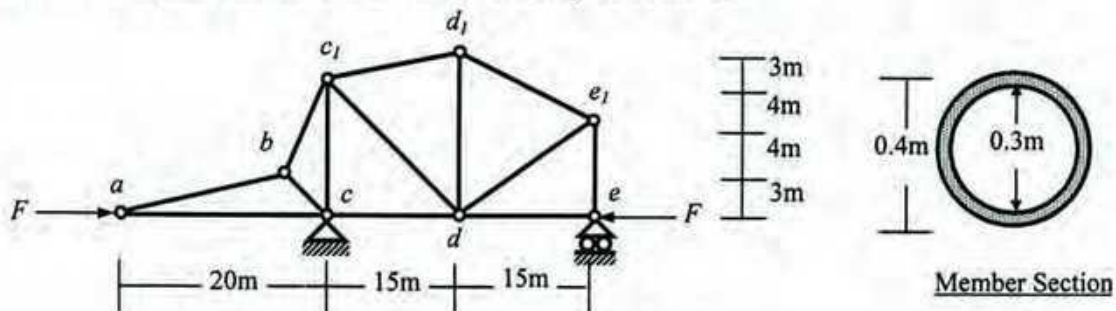

Fig. 12
14. Use the AISC-ASD criteria to calculate the allowable value of F to avoid buckling of any member of the truss shown in Fig. 12 [Given: $E = 200 \times 10^3$ MPa, $f_y = 300$ MPa].